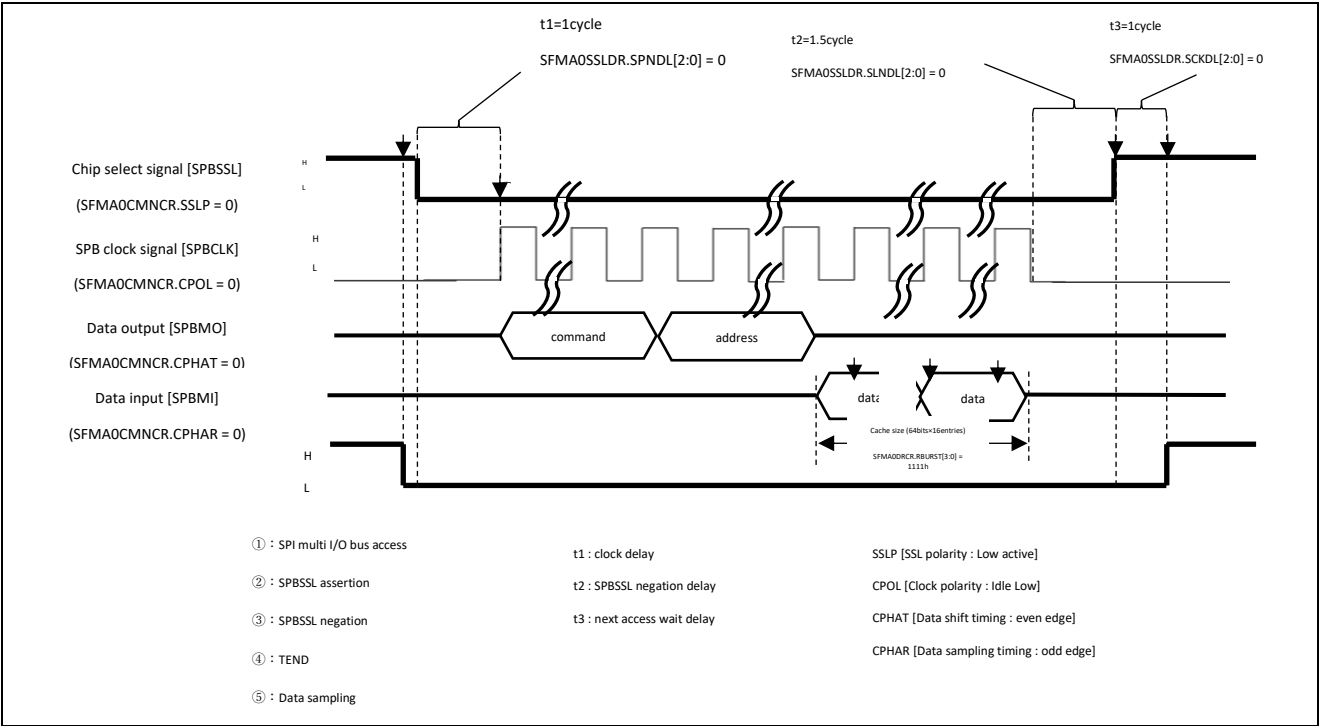

Figure 7 Burst read operation
- External Address Space Read mode support also burst read – in this mode read operation is always 64bits. This mode can use built-in read cache with size of 64bits and 16 entries. Figure 7 Burst read operationshows timing chart of Burst read operation.